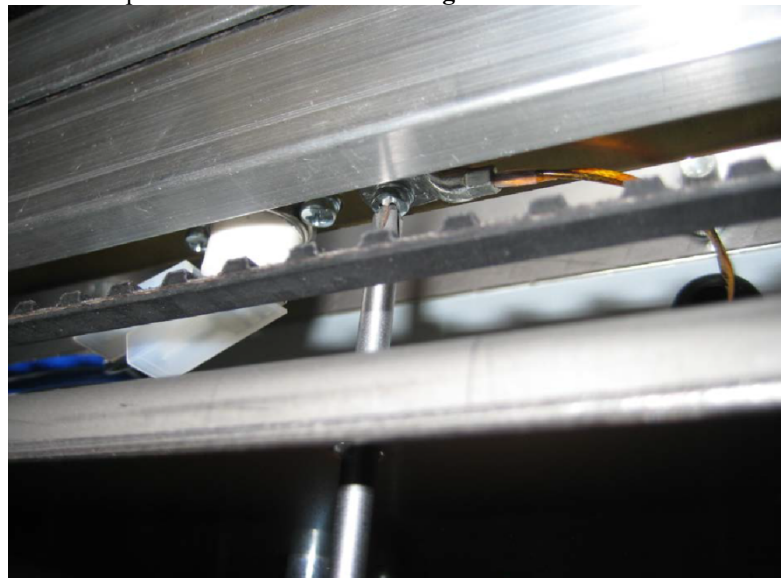

Figure 2
2. Put a screwdriver through the hole in the mounting plate to reach the screw of the thermocouple and remove the screw. **Fig. 2**